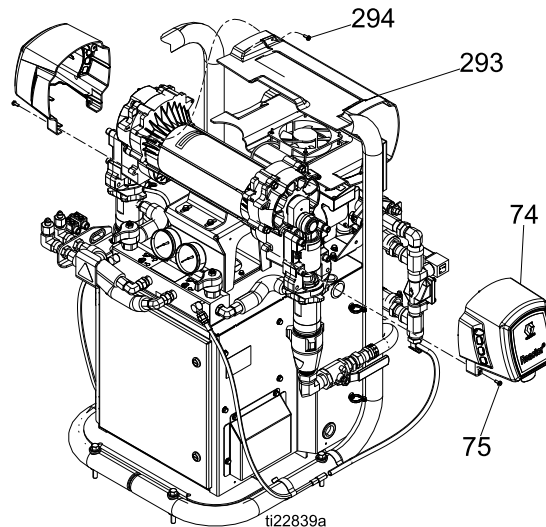

Figure 12
- Remove screws (294) and motor shield (293), see Fig. 12.